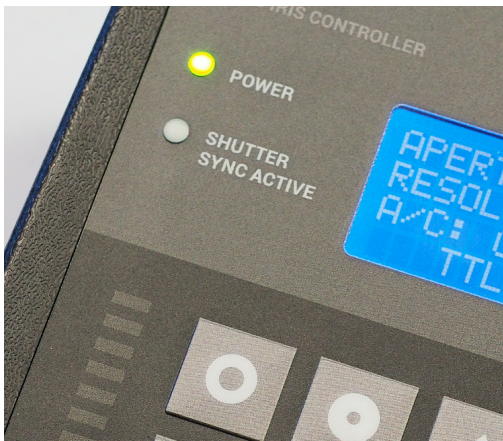
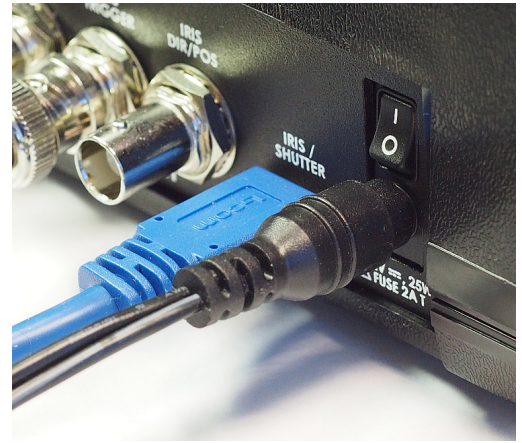
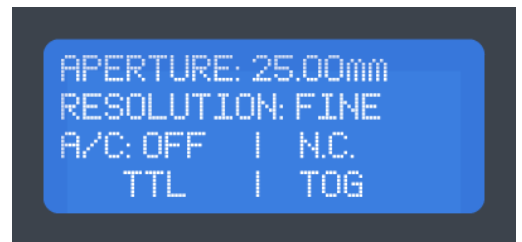

Fig. 5
Fig. 6
Fig. 7
5. Power on the AIC10 Iris Controller by switching the rear panel power switch to the “ON” position (|) (Fig. 6). The AIC10’s green “POWER” LED will illuminate, indicating that the device is powered (Fig. 5). The front-panel display will illuminate as well, and will show the Iris Status Screen (Fig. 7). If your AI25 is equipped with the high-speed shutter attachment, the shutter will automatically close upon power up and the amber “SHUTTER SYNC ACTIVE” LED may quickly illuminate.